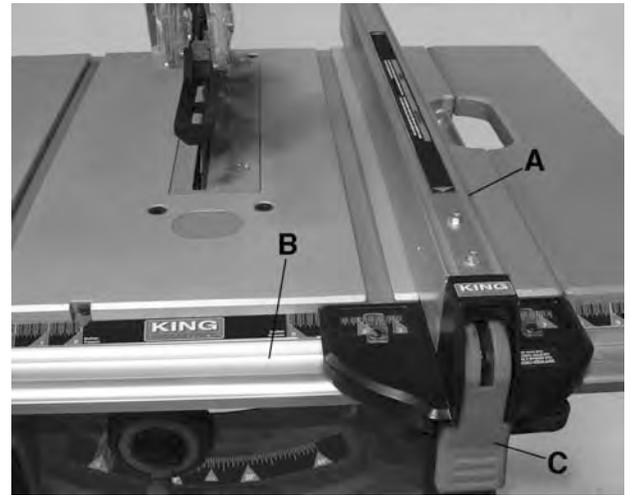
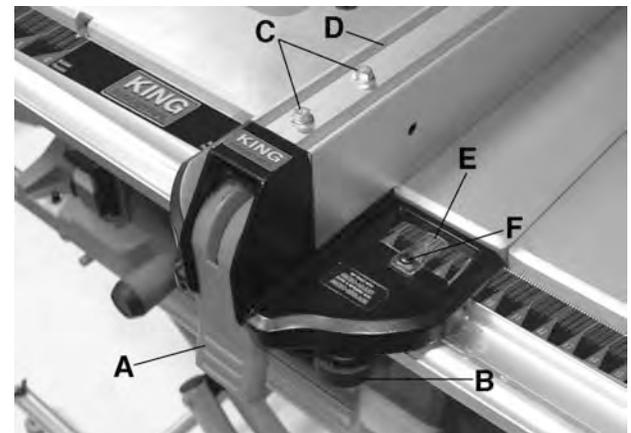

FIGURE 14
FIGURE 15
1. Position the front of the rip fence (A) Fig.14 on the front rail (B). Lower the back end of the rip fence on the rear rail. Check to make sure the rip fence slides freely on the rails.
2. Lower rip fence locking lever (C) to automatically align and secure the rip fence in place.
3. This rip fence comes with a micro-adjust wheel (B) Fig.15 which allows the user to make small adjustments of the rip fence using only one hand. The rip fence lock lever (C) Fig.14 must be raised to the unlocked position to use this feature.
To reduce the risks of kickback, the rip fence must be perfectly parallel to the blade. Unlock rip fence by raising locking lever (A) Fig.15. Loosen both hex. bolts (C) Fig.15 on top of the rip fence. Align the rip fence with the blade and retighten both hex. bolts (C). Adjust the rip fence pointer (D) to the same marking by loosening pointer screw (E) and repositioning pointer.